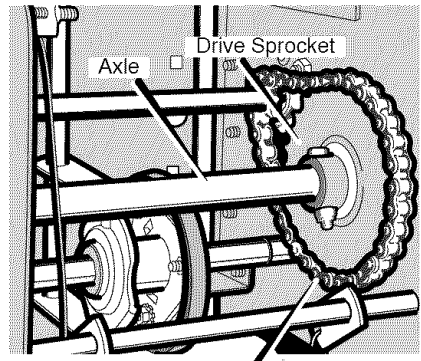

Figure 47
7. Remove the fasteners that secure the **drive sprocket** to the **axle** (see Figure 47).
16. Install the right wheel, **axle**, and **drive sprocket** with the fasteners removed earlier. Install the **chain** onto the **drive sprocket** (see Figure 47).